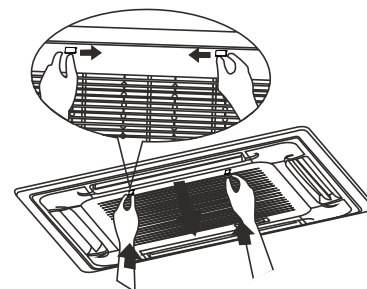
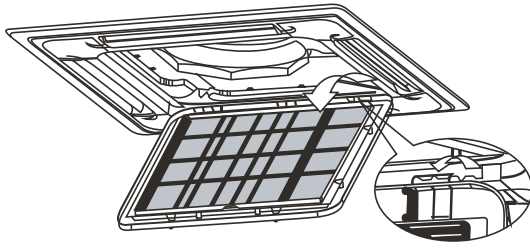

Figure 13.1
Figure 13.2
- ◆ Push the grille switches simultaneously, as indicated in Fig.13.1. Then pull down the air intake grille (together with the air filter, as shown in Fig.13.2). Pull the air intake grille down to 45°, and lift it up to remove the grille.